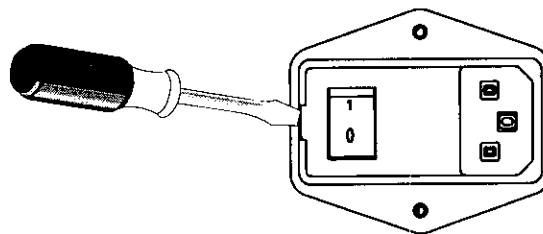

Figure 15: Rear panel fuse location
2. Use a screwdriver to open the fuse compartment door on the AC receptacle and slide out the two fuse carriers (Figure 15).